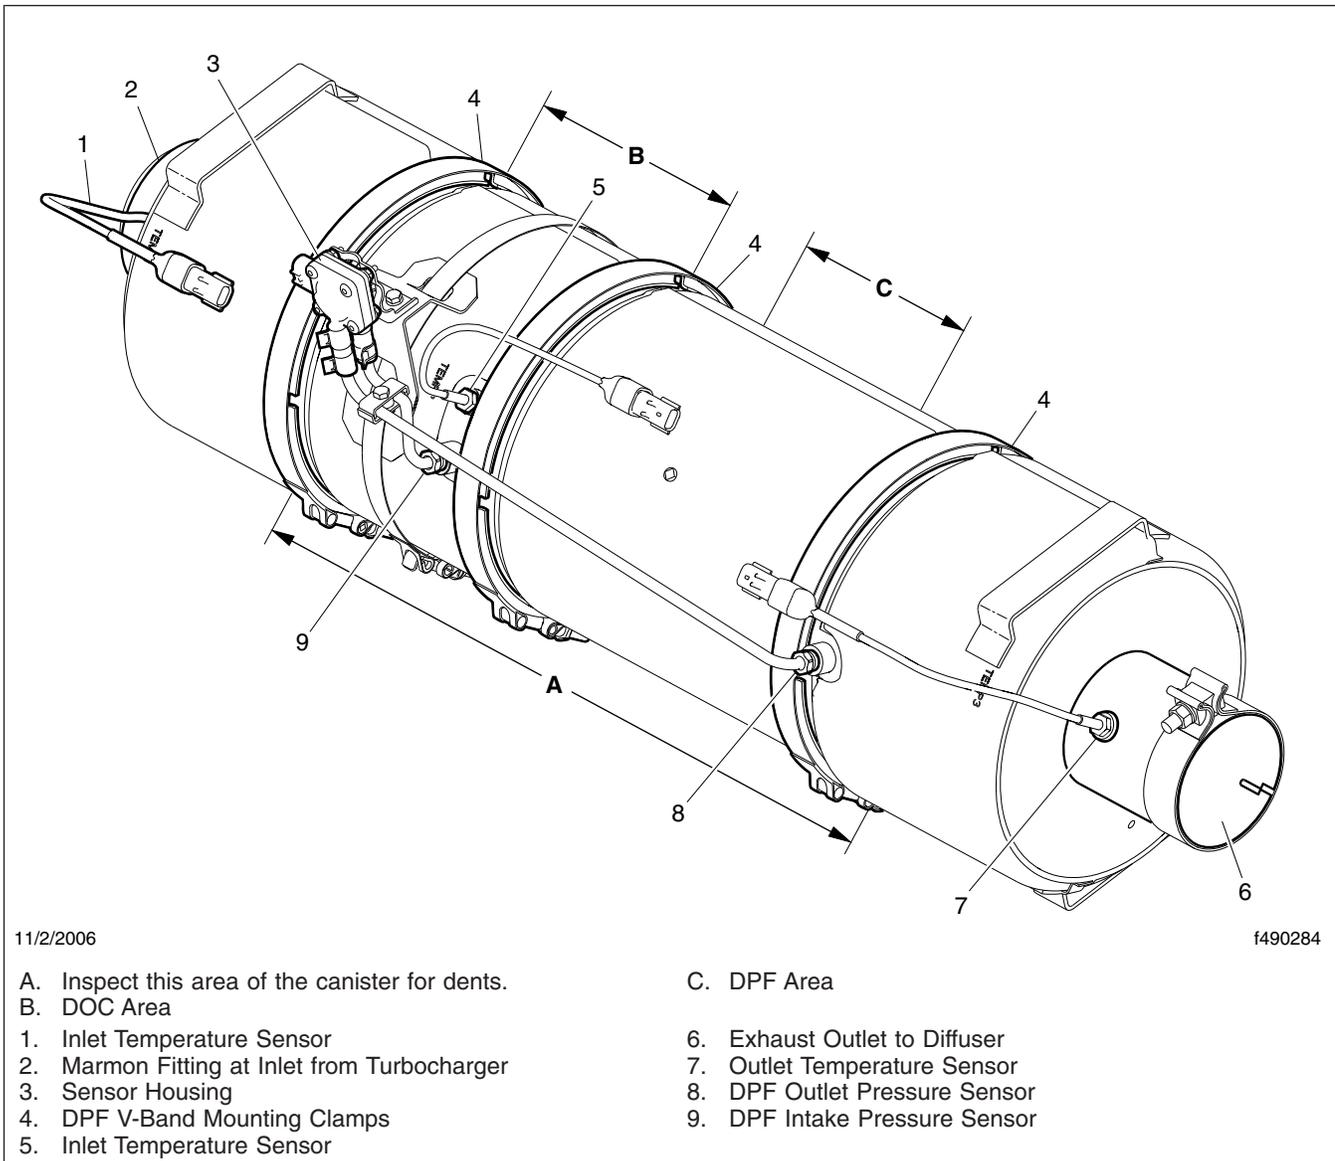

Fig. 2, Aftertreatment Device (typical)
IMPORTANT: The Environmental Protection Agency's 2007 regulations require lower exhaust emissions, thus requiring new exhaust system components. See **Fig. 2**. In particular, the aftertreatment device (ATD), which is part of the aftertreatment system (ATS), requires special attention during regularly scheduled maintenance inspections. If any discrepancies are discovered, refer to the engine manufacturer's service literature for repair instructions, or take the vehicle to an authorized Freightliner service facility for repair.
7. Check the DPF exterior surface for dents or other damage. See Fig. 2, Reference A. A dent over 3 inches (76 mm) in diameter and 1/4-inch (6-mm) deep could cause internal damage to the DPF, causing it to malfunction.